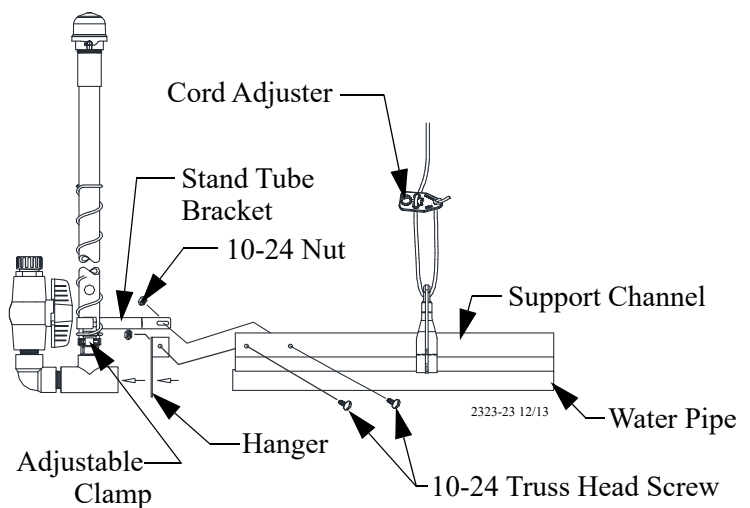

Figure 27. Outlet Assembly Installation
Install the outlet assembly, as shown in Figure 27.
3. Secure the hanger to the support channel, as shown in Figure 27. If the water line was shortened to terminate under a suspension drop line, it may be necessary to drill a hole in the support channel for the 10-24 stainless truss head screw and lock nut. The Stand Tube Bracket may be used as a template to determine proper hole location.